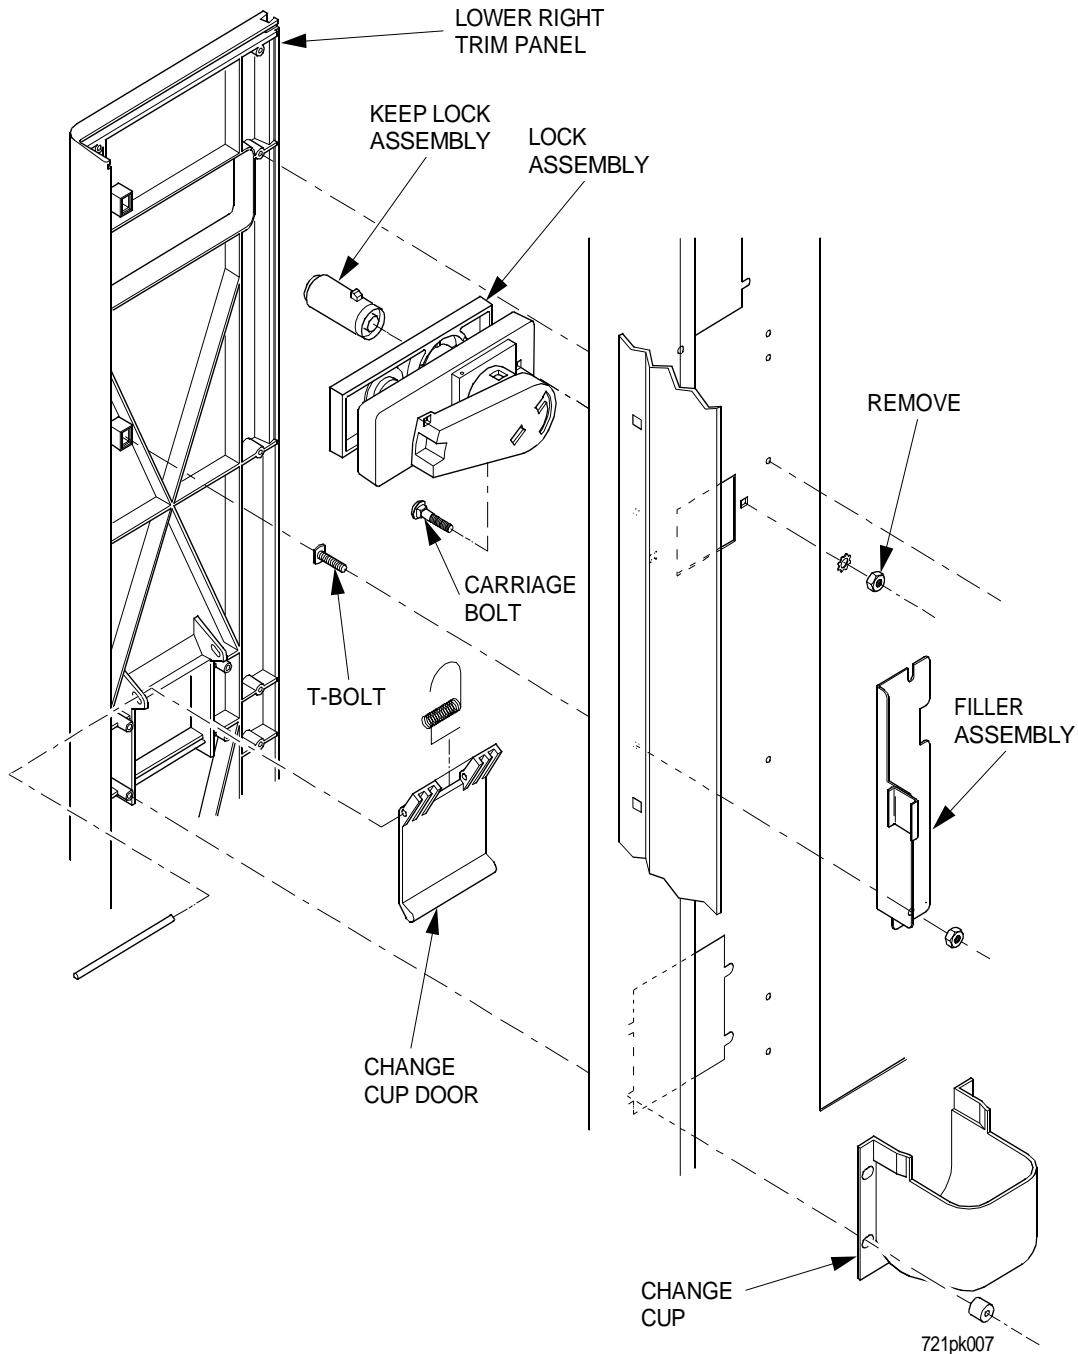

Figure 1
1. Remove the change cup by removing the four (4) screws and cup spacers from the back of the main door (see figure 1). Remove the change cup door.
2. Remove filler assembly by removing the two nuts from the back of the main door (see figure 1).
3. Remove the lower right trim panel by removing the screws from the back of the main door that retain it, approximately twelve (12) screws (see figure 1).
4. Remove the lock assembly by removing the two (2) carriage bolts, nuts, and washers that retain it from the back of the main door (see figure 1). Remove the lock cylinder from the lock assembly and keep it for later use.